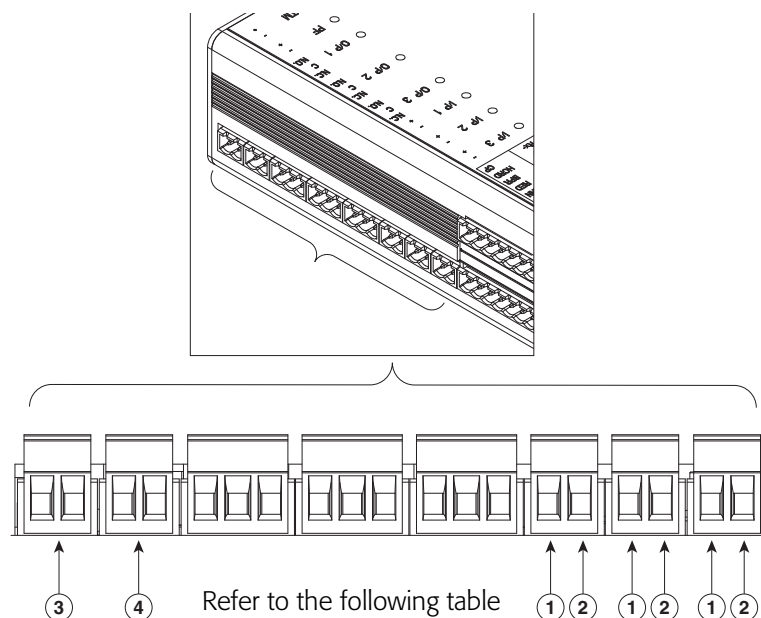

Figure 39: Input Connections: Cisco Physical Access Gateway and Reader Module
- a. Insert two-pin connector plugs into the input ports (see Figure 39).
- c. Connect the wires from the input devices (see Figure 39).